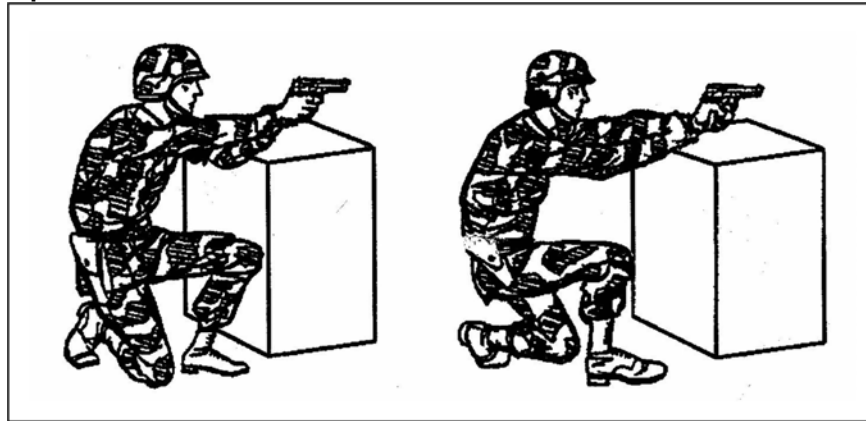

Figure 5. Kneeling Firing Position
- (1) Use available cover for support. For example, stand behind a tree or wall.
- (2) Stand behind a barricade with the firing side on line with the edge of the barricade.
- (3) Place the palm of the nonfiring hand at eye level at the edge of the barricade, extending the thumb past the edge of the barricade.
- (4) Lock the elbow of the firing arm. Rest the forearm on the extended thumb of the nonfiring hand.
- (5) Move the foot on the nonfiring side forward until the toe touches the bottom of the barricade.
- c. Kneeling (Figure 5).